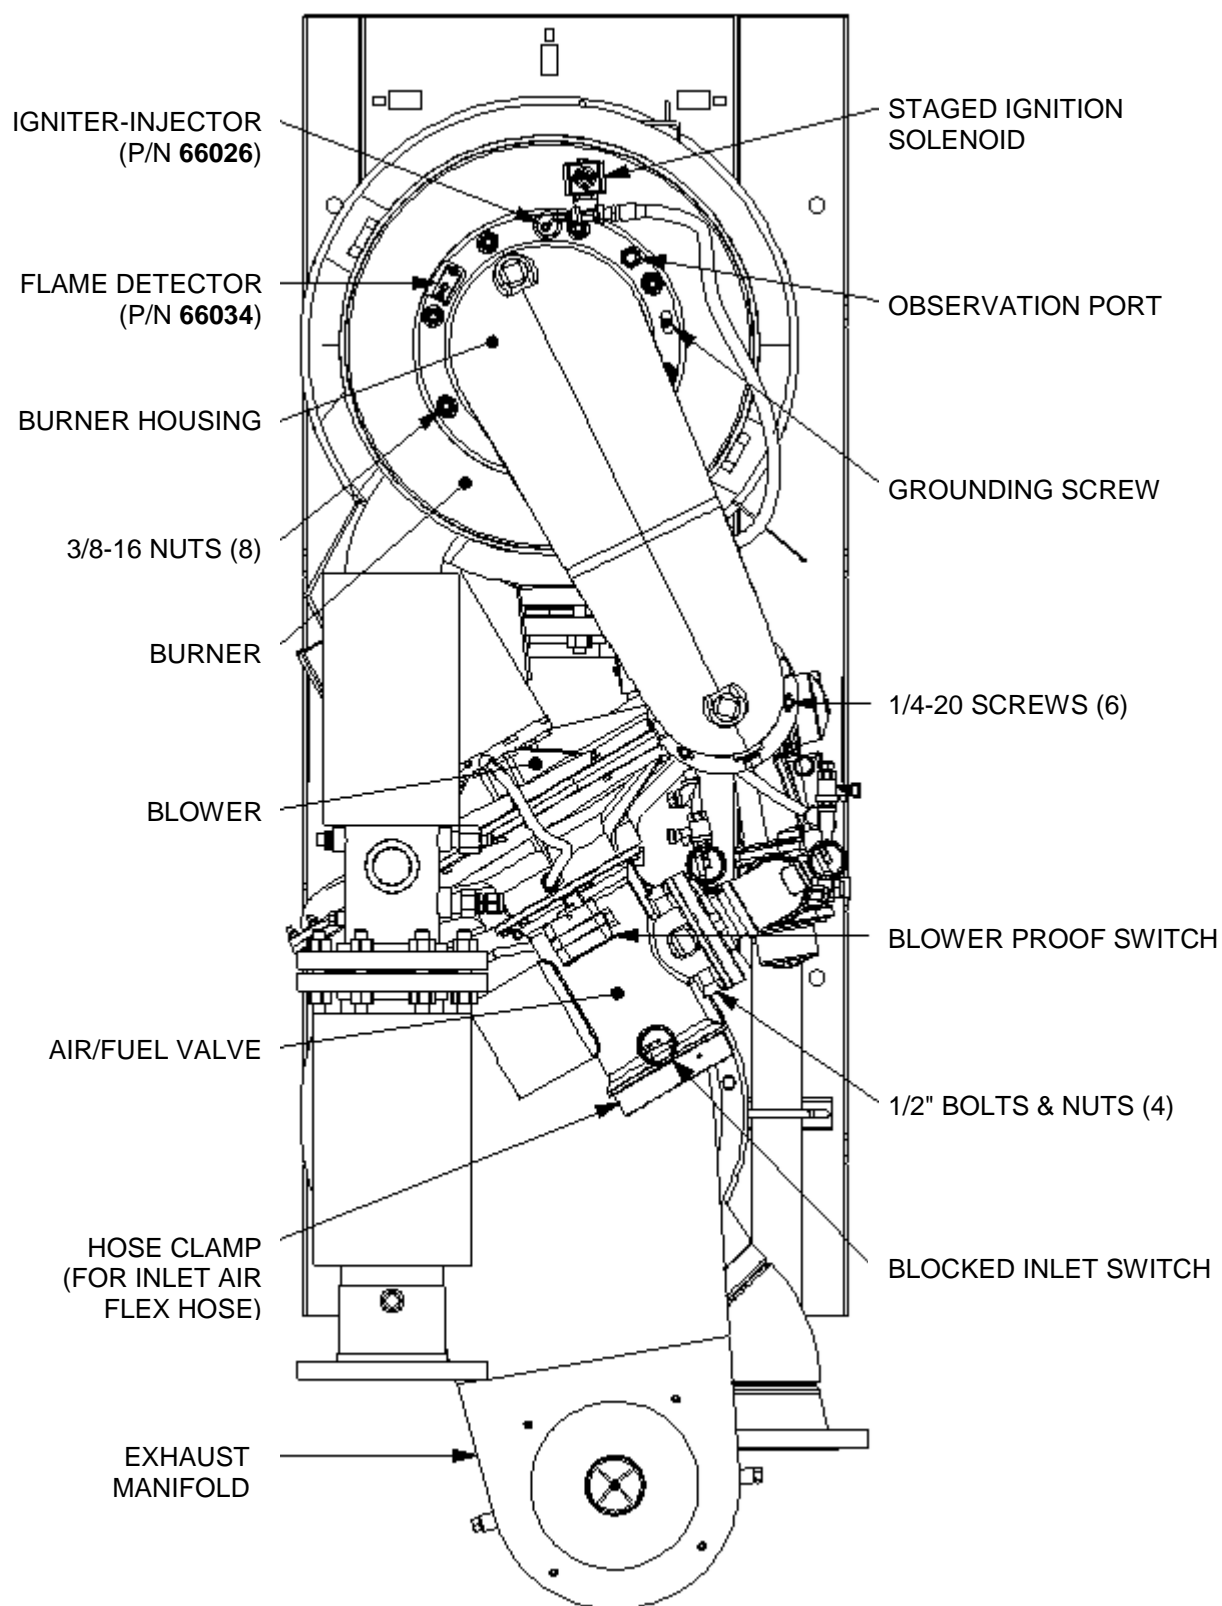
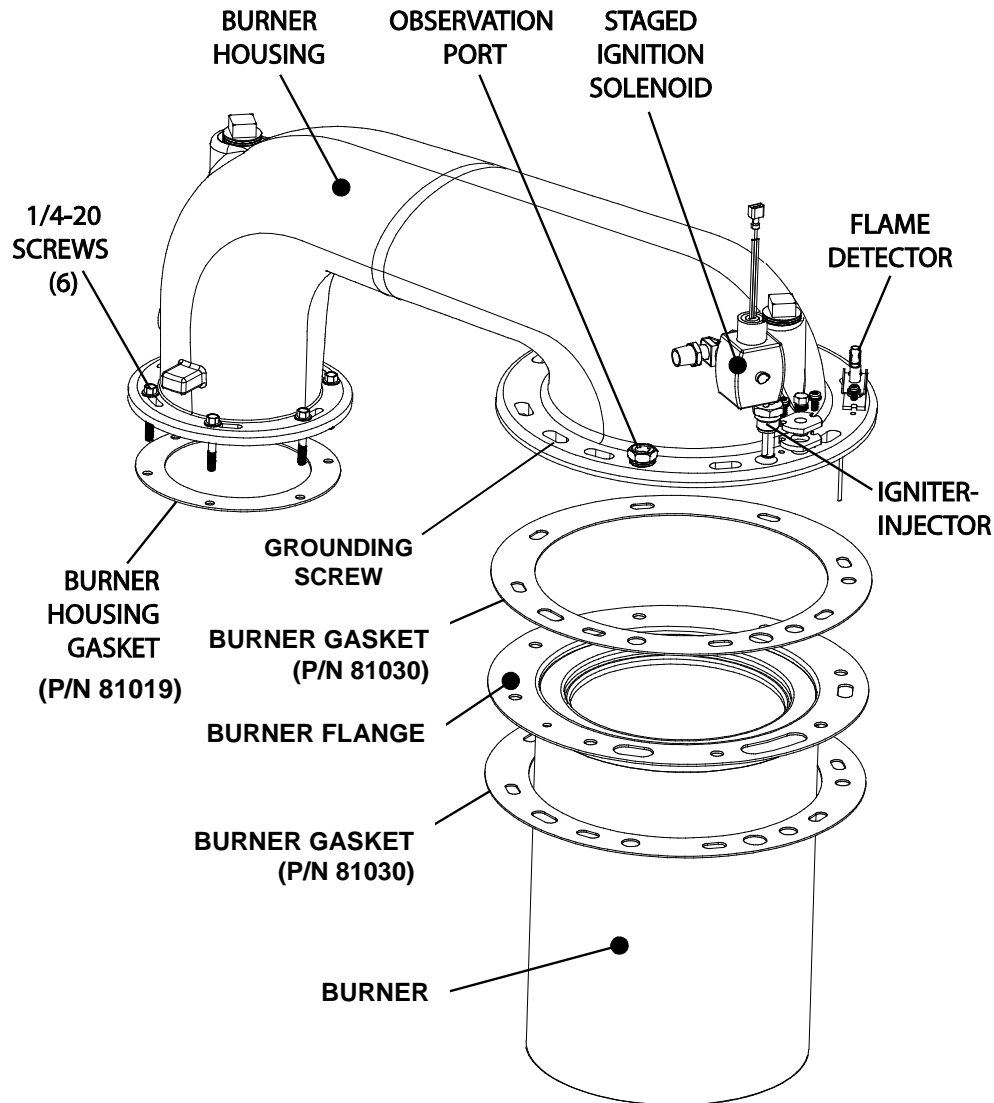

Figure 4: Benchmark 3.0LN - Top View
Figure 5: BMK3.0LN Burner Assembly - Exploded View
The Burner Assembly is located at the top of the heat exchanger as shown in Figure 4. Figure 4 shows the Burner Assembly mounting details looking down onto the top of the boiler and Figure 5 shows an exploded diagram of the complete Burner Assembly removed from the unit.
8. Disconnect the burner housing from the blower by removing the six (6) 1/4-20 screws using a 3/8" wrench (Figures 4 and 5).
9. Remove the eight (8) 3/8-16 nuts from the burner housing flange (Figure 5) using a 9/16" wrench.
10. Remove the grounding screw (Figures 4 and 5).
13. Remove the burner by pulling straight up. Be sure to remove and discard the two (2) burner gaskets. At reassembly, these gaskets will be replaced with new ones from the kit. Figure 5 shows an exploded view of the burner assembly for a Benchmark 3.0LN Boiler.
1. Refer to Figures 4, 5, and 6 to locate the Flame Detector installation location.
1. Reinstall the grounding screw to the burner housing (Figure 4).